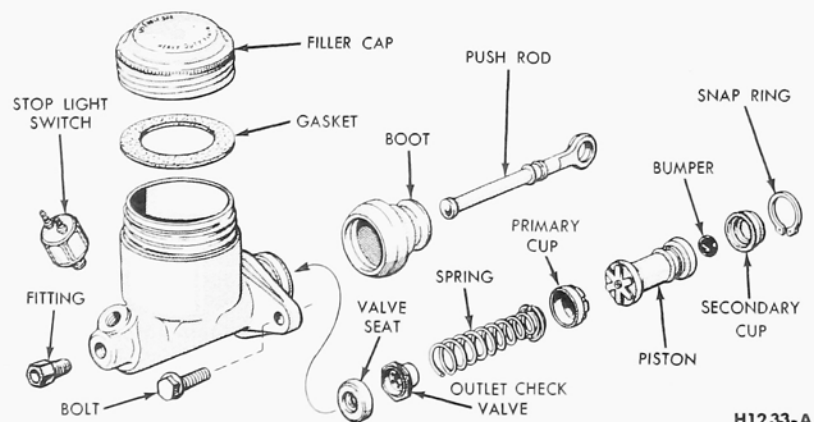

FIG. 12—F-100 Brake Master Cylinder
3. Remove the brake bolt, fitting, and gaskets from the forward end of the cylinder (Fig. 12 or 13). Remove the snap ring from the bore at the
2. Install the brake fitting, bolt, and gaskets (Fig. 12 or 13), on the forward end of the cylinder. Attach the stoplight switch to the brake bolt.